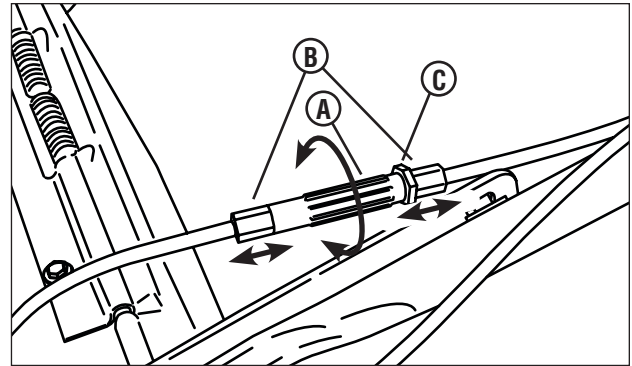

Figure 17: Adjusting the drive cable
- If the transmission does not engage, increase drive cable tension by loosening the jam nut (**C**, **Figure 17**) and rotating the turnbuckle (**A**) counter-clockwise one-half turn to move the ferrules (**B**) out from the turnbuckle. Tighten the jam nut against the turnbuckle. Check and repeat as needed.